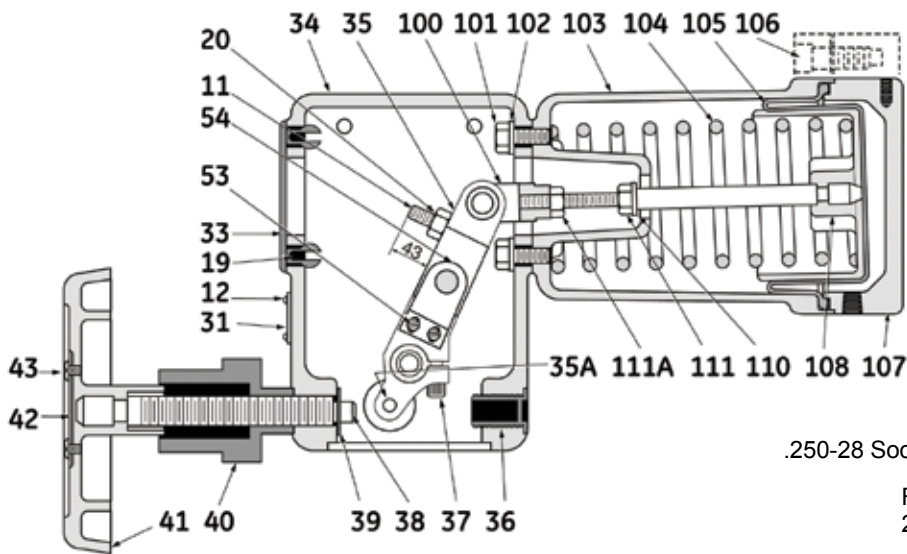

Figure 6
4. Reverse the position of limit stop (11) on lever (35). The limit stop must always be fitted on the opposite side from the clevis (100). It is set to the 43 mm position (see Figure 6).
5. Remove retaining ring (38) and washer (39). Remove handwheel (41), handwheel lock (40) and handwheel thread plug (36). Install handwheel (41) and handwheel lock (40) on opposite side of yoke from actuator. Replace washer (39), retaining ring (38) and handwheel thread plug (36).
6. Connect an air line to the actuator and make a zero adjustment of actuator and lever (35) as outlined under “Actuator Stem Adjustment”.
7. Reconnect air (or electric) lines to the actuator or its accessories). Refit covers (18), (21) and (33).
## Actuator Stem Adjustment (Figure 6)
9. If the limit stop (11) has been removed, it must be refitted at the 43 mm setting, then locked using the nut (20) on the opposite side from the clevis (100) (see Figure 6).
10. Couple the clevis and the actuator on the arm (35) as follows: